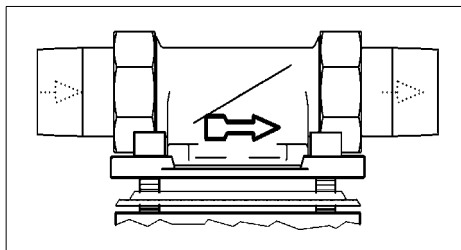

Fig. 1: Built-in rotary flange
- direction of flow (see fig. 1)
The built-in rotary flange must be installed in the direction of flow. This is marked by a cast in arrow (see fig. 1).